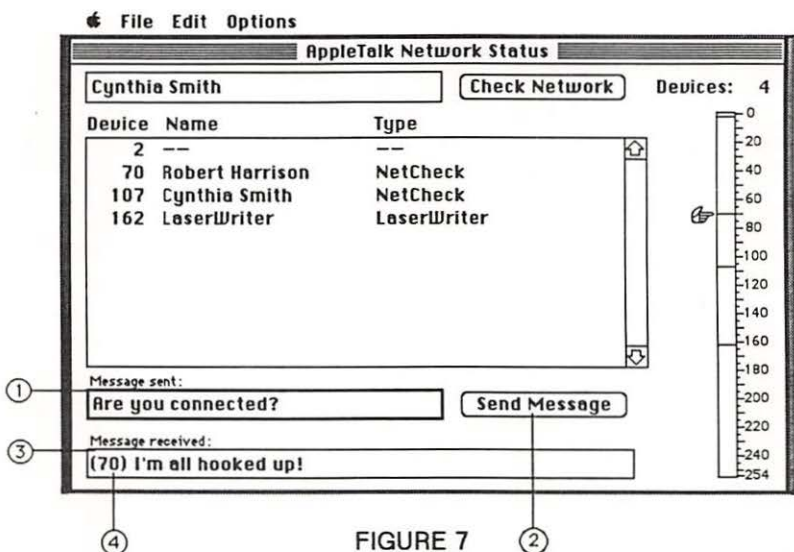

FIGURE 7
You can use the "Message sent:" box (Figure 7, #1) to enter any message you wish to send to other devices on the network:
2. When you have finished typing your message, click on "Send Message" (Figure 7, #2). (If the "Message sent:" box is highlighted, pressing <RETURN> will also send the message.)
Messages are received in the "Message received:" box (Figure 7, #3). Each message is preceded by the device number of the sender (Figure 7, #4).